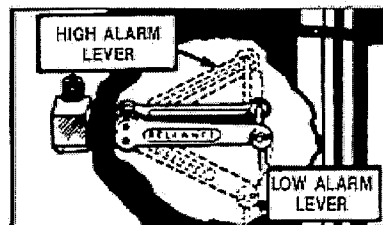

Figure 10
5. Hook float rods into levers from the inside out, so that the cotter pins will be on the outside of the levers. (See Figure 11). Make sure low alarm rod is in low alarm lever (See Figure 10) and insert new style cotter pins which require no spreading.